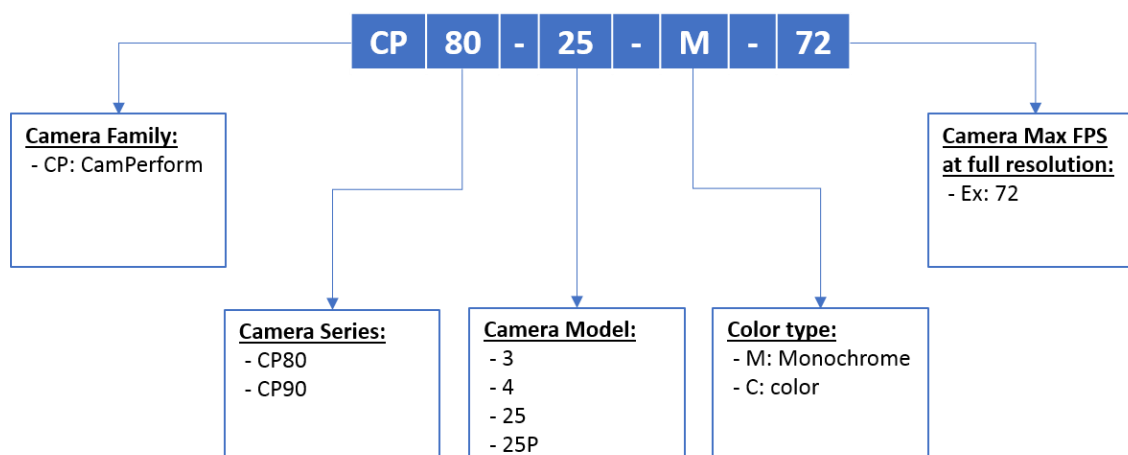

Figure 3: Camera Model Name Decoder
- Ref.: Camera Model Name (see Figure 3)